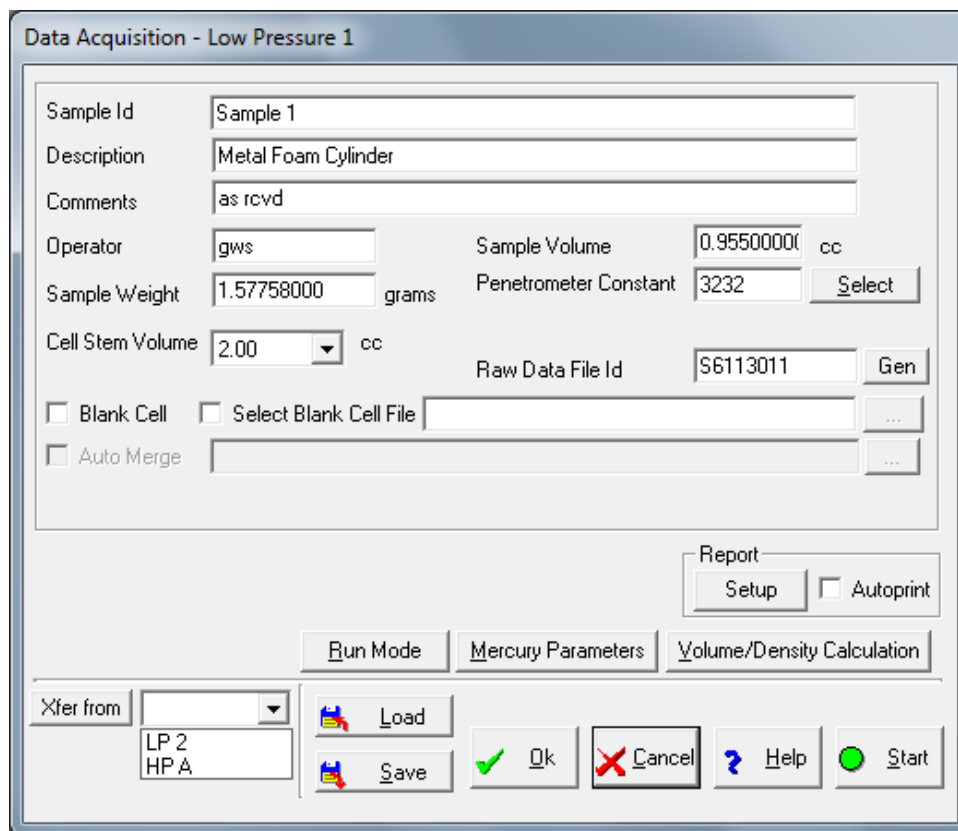

Figure 16. Low pressure data acquisition dialog box
- From the **Data Acquisition** dialog box, start the low pressure analysis by clicking on the **Start** button as shown in Figure 16. (**OK** will save the setting but not start the run.) As the low pressure evacuation run progresses, the PC will display a series of messages showing the status of the analysis. Pressure vs. cumulative volume intruded plots will also be displayed for each station used. When the analysis is complete, the data will be uploaded from each station used and saved to disk.